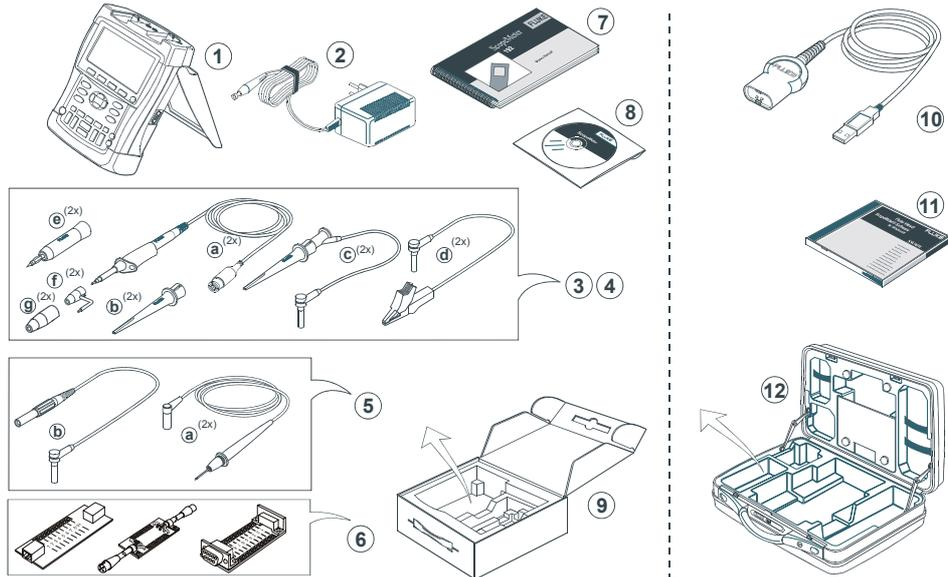

Figure 1. ScopeMeter Test Tool Kit
- Do not connect the ground spring (Figure 1, item f) to voltages higher than 42 V peak (30 Vrms) from earth ground.